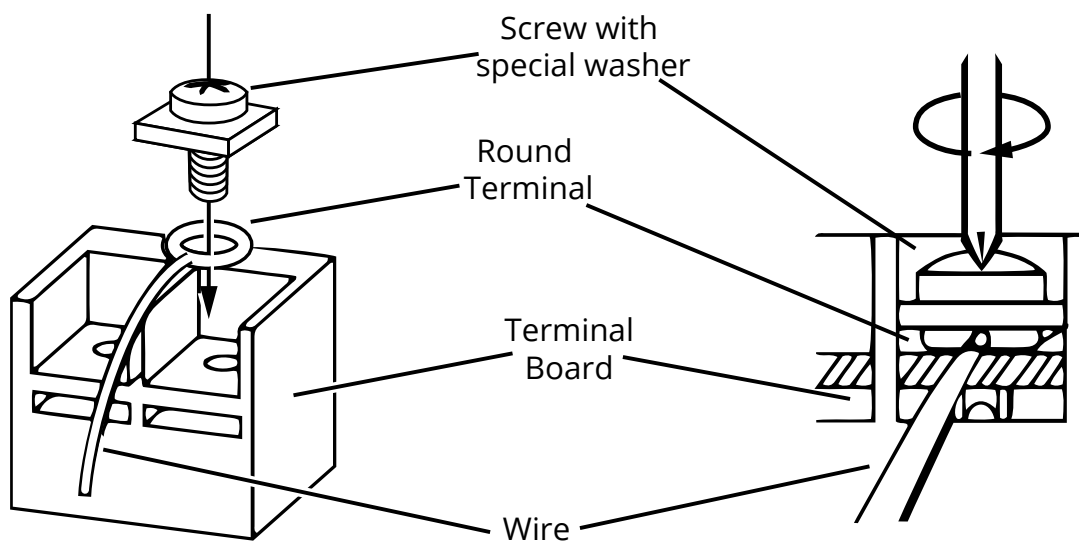

Fig. 2.29
For braided wires (Refer to Fig. 2.28 B & Fig. 2.29):
4. Locate the round terminal conduit. Use a screwdriver to replace it and tighten up the terminal screw, as shown in Fig. 2.29.